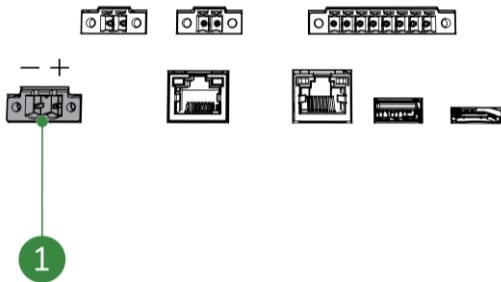

Figure 5-23: HMI power connector
3. Connect the power cable to the HMI power connector (Figure 5-23, pos. 1).